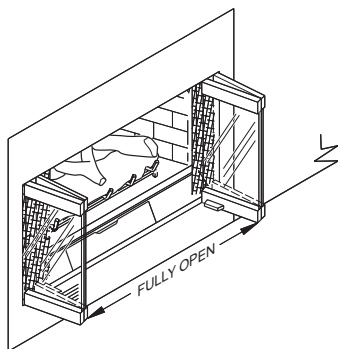

Figure 10 - Bi-Fold Doors Fully Opened
- Glass doors should be operated in the fully open position only (see Figure 10).